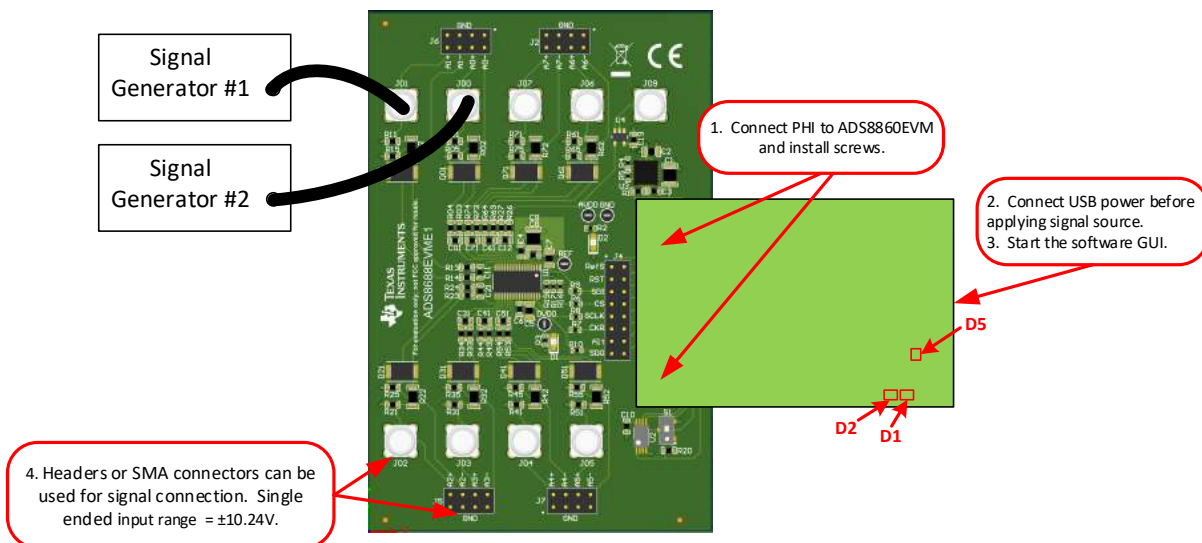

Figure 7-1. ADS8688EVM Hardware Setup and LED Indicators
| Figure 7-1. ADS8688EVM Hardware Setup and LED Indicators..... | 11 |
After installing the software connect the EVM as shown in Figure 7-1
- LEDs D1 and D2 on the PHI start blinking to indicate that the PHI is booted up and communicating with the PC; Figure 7-1 shows the resulting LED indicators